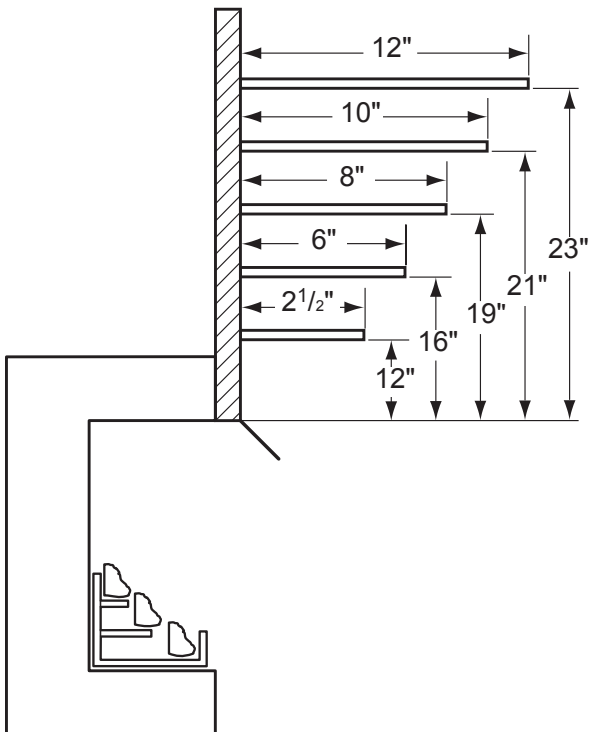
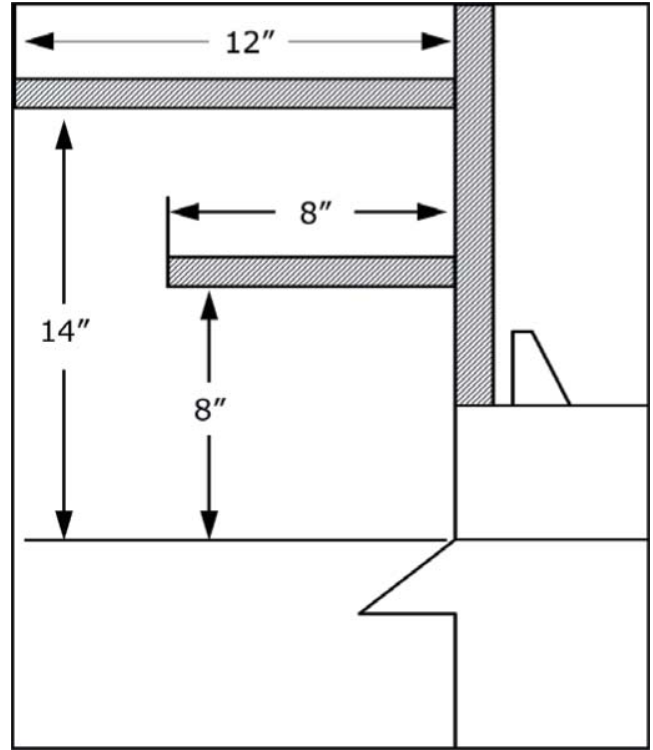

Figure 7A - Mantel Clearances
Figure 7B - Mantel Clearances for Wide Profile Canopy Only.
5. **Mantel clearances:** The canopy supplied with the unit must be installed. If a combustible mantel is installed, it must meet the clearance requirements as shown in *Figure 7A*. However, if lower mantel height is desired, see page 15 and *Figure 7B*.